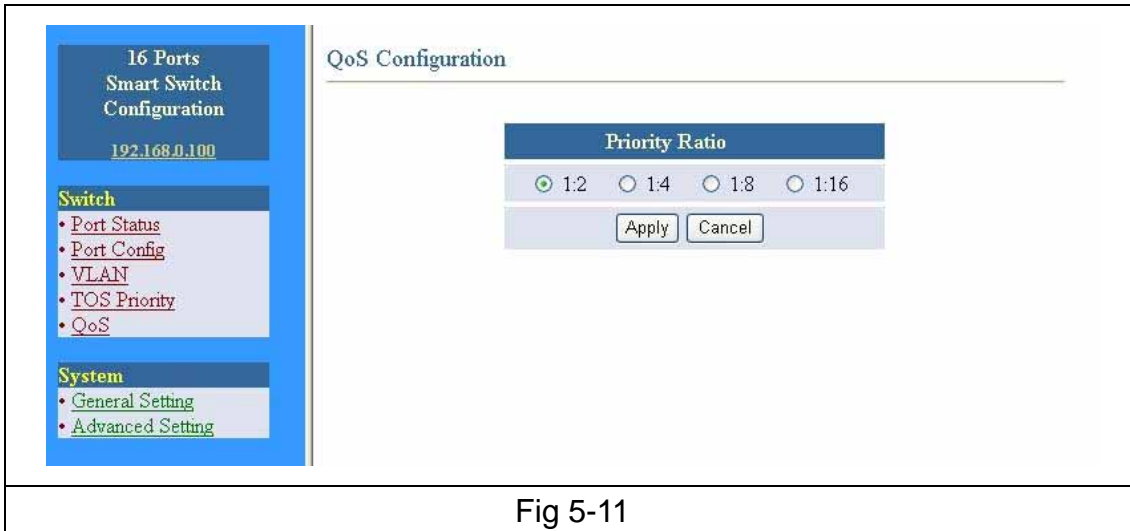

Fig 5-11
1. Select the Priority Ratio. ("High Queues & Low Queue" Ratio) (Fig 5-11)